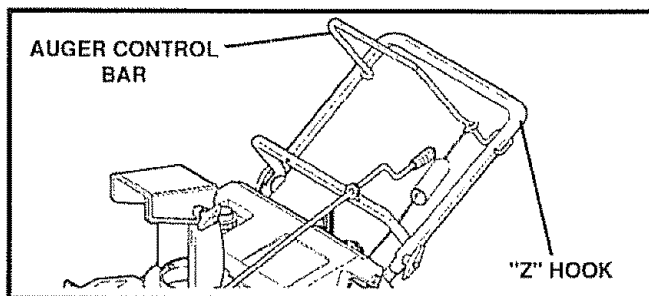

FIG. 9
- Remove "Z" hook from the auger control bar (See Fig. 9).